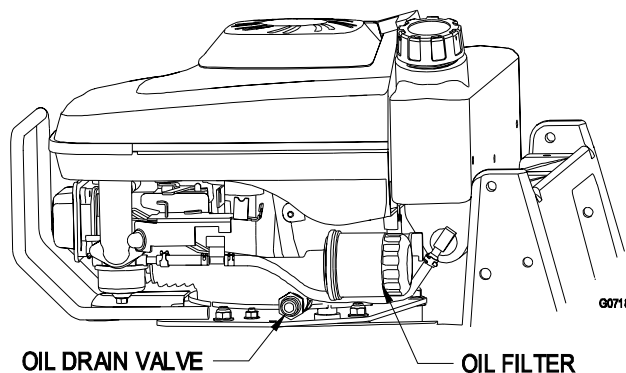

FIGURE 24
- d) Place a suitable drain pan under the oil drain (Figure 24).